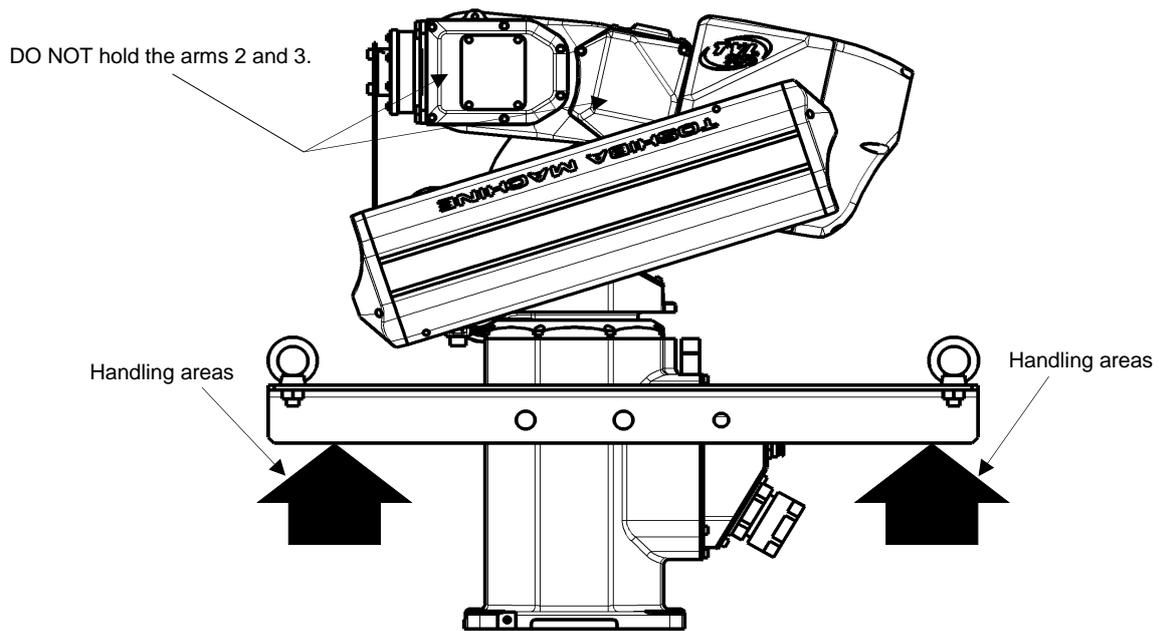

Fig. 2.6 Robot handling areas
- When lifting up the robot by workers, hold the locations (arrowed parts) by hands as shown in Fig. 2.6. If the arm 2 and arm 3 are held by hands, an unusually large force is exerted, resulting in a malfunction.